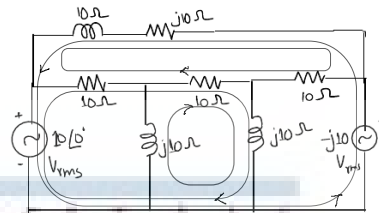

Figure 6: Figure for question 14 (a).
14. (a) For the network shown in Fig. 6 assign reference directions and draw the network graph. (8)